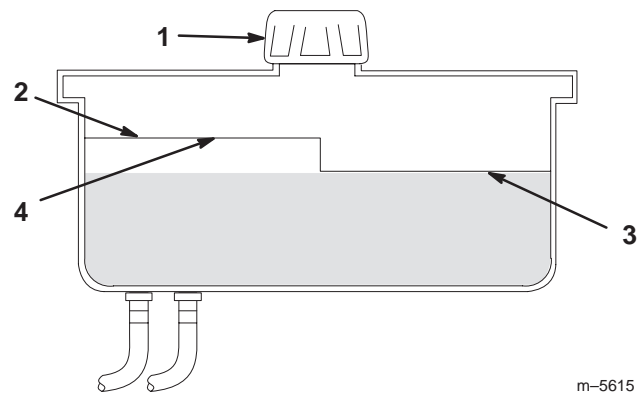

Figure 37
2. Clean area around filler neck of hydraulic tank (Fig. 37).
3. Remove cap from filler neck. Look inside to check if there is fluid in the reservoir. (Fig. 37).
Note: The fluid level should be to the top of the **hot** level of the baffle, when the fluid is warm (Fig. 37).